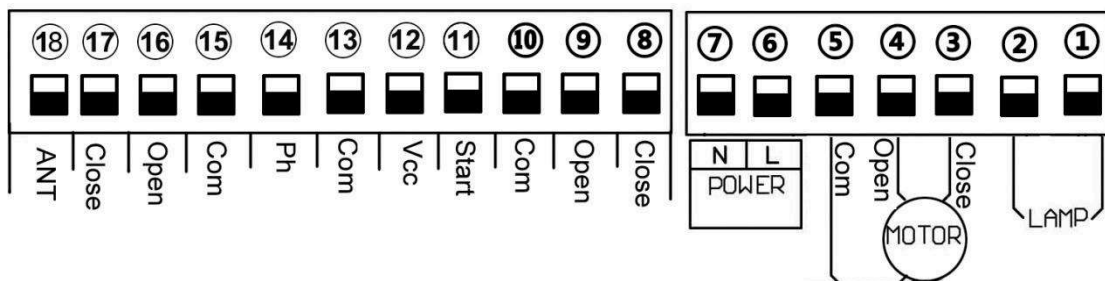

Fig 6
6. Installation diagram of electrical parts (Fig 6)